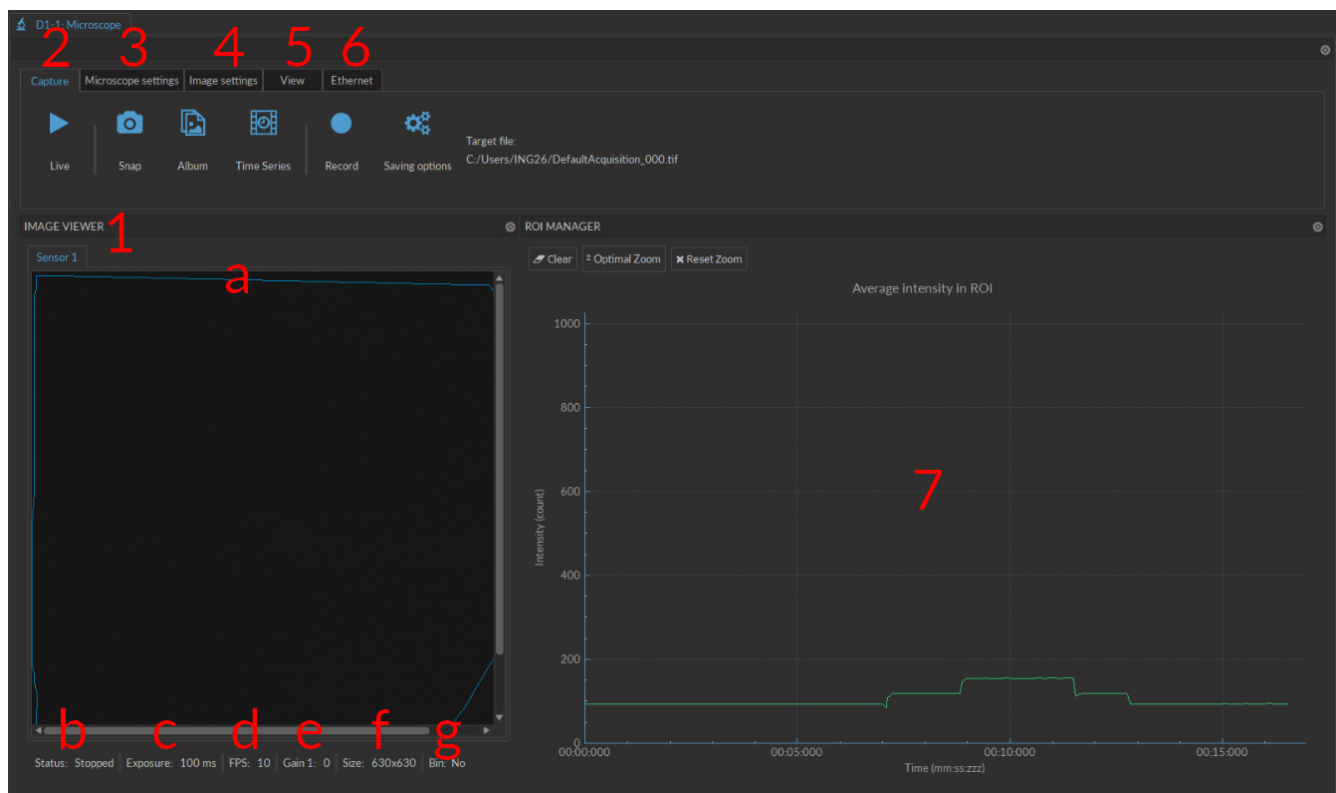

Figure 4.1: Microscope Module Interface
Below is the user interface (Fig. 4.1) and a complete description of all the functions.
1. The **Image Box** (Fig. 4.1) displays images from the microscope and allows region of interest (ROI) drawing by clicking and dragging the mouse over the image.
- The **Sensor Tabs** (Fig. 4.1) display the sensors available to view. For multi-sensor microscopes, changing tabs allows you to see the image available to each.
- The microscope **Status** (Fig. 4.1) will indicate the current microscope state (Live/Stopped).
- The **Exposure** (in ms) (Fig. 4.1) indicates the exposure time of the microscope sensor.
- The **FPS** (Frames Per Second) (Fig. 4.1) indicates the number of frames per second taken by the sensor.
- The **Gain** (Fig. 4.1) indicates the electrical gain of the sensor.
- The **Size** (Fig. 4.1) indicates the resolution of the sensor images (in Pixels x Pixels).
- The **Bin** (Fig. 4.1) status indicates whether or not the sensor image is being binned (yes/no).
2. The **Capture** tab (Fig. 4.1) contains different image-capturing functions of the microscope.
3. **Microscope settings** tab (Fig. 4.1) is used to set parameters related to the microscope recording images.
5. The **View** tab (Fig. 4.1) is used to change viewing parameters of the sensor image. These changes will only appear on the sensor image when a new **Capture** sequence is started. Any adjustments made affect only the displayed image and not the recorded images.
6. The **Ethernet** tab (Fig. 4.1) is used to define the ethernet connection used to connect the computer to the microscope driver.
7. The **ROI Manager** (Fig. 4.1) displays the live mean pixel intensity from a drawn ROI.